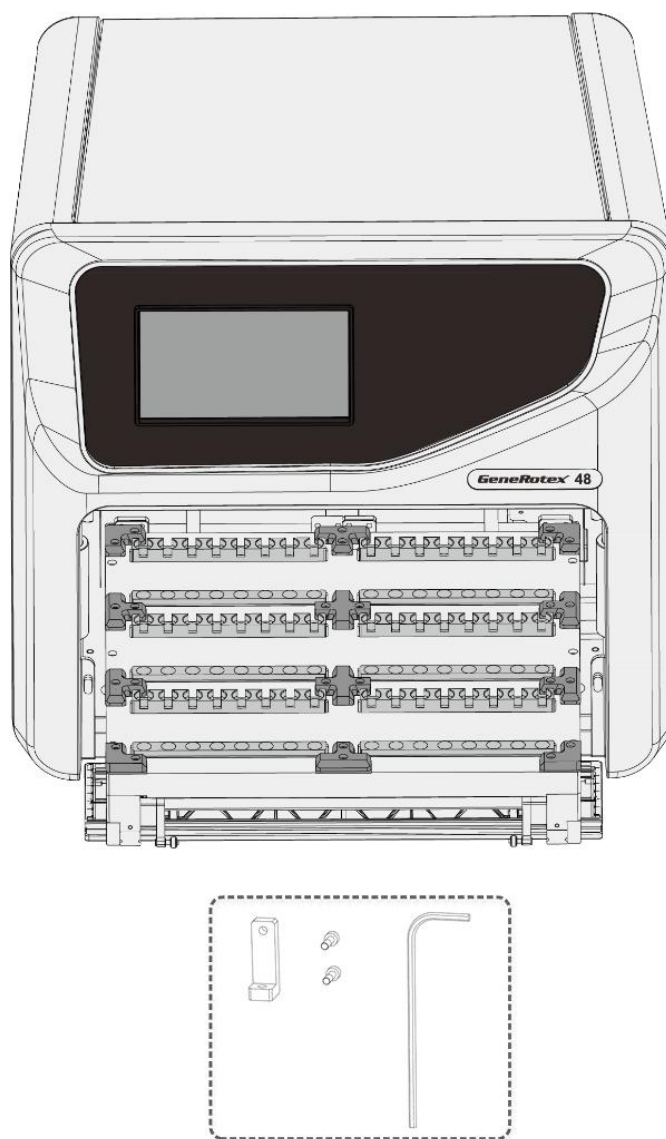

Figure 2-2. GeneRotex Extractor - Removal of Transport Lock
**1st Step:** Please open the experiment cabin. There are two transport locks fixed under the movable loading platform, as shown in Figure 2-2.
**2nd Step:** Remove two screws on each transport lock with a screwdriver and remove the transport lock, as shown in Figure 2-2.